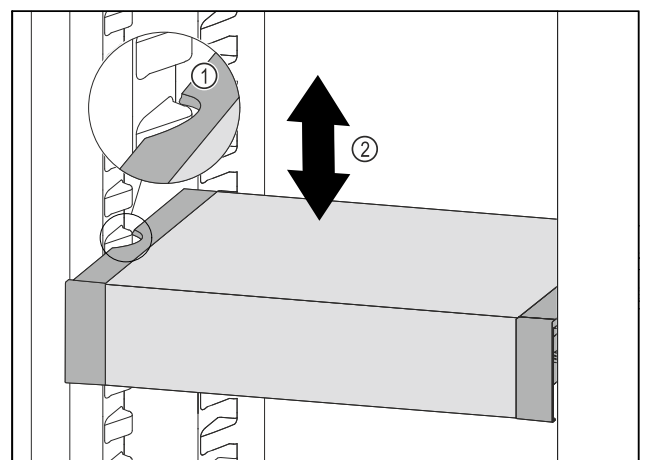

Fig. 173
- Pull VarioSafe forwards until the recesses in the side of the VarioSafe are at the level of the support rib in the refrigerator compartment. Fig. 173 (1)
- Move VarioSafe up or down in the refrigerator compartment until the desired height is reached. Fig. 173 (2)